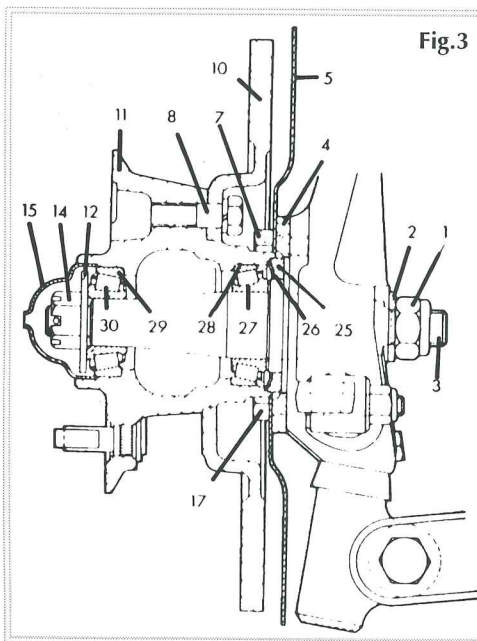

Fig.3
due to the slack in the wheel bearings. This is a normal condition. If the play is either excessive or non-existent you will need to adjust the bearing. To do this, first remove the wheel followed by the domed dust cap in the centre of the hub (Figure 3, no. 15). Under this you will see a castellated nut (14) with a split pin through it. Use a pair of pliers to remove the pin and then either tighten or loosen the nut to the next split pin hole - there are two holes in the axle to choose from